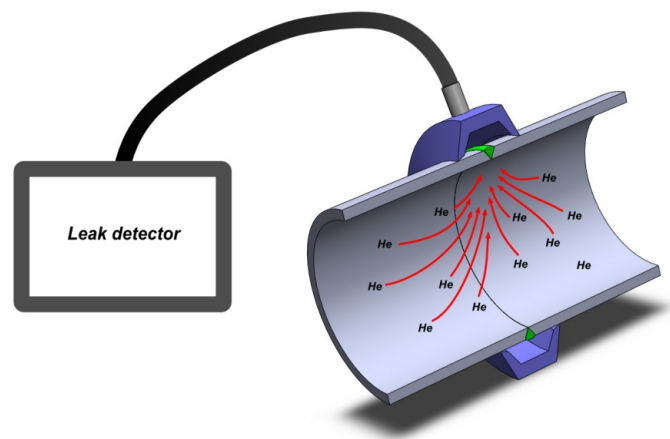

Fig. 2 : Helium molecules migrate if a leak is detected
- 4- If a leak or porosity is detected, Helium molecules will be seen by leak detector (fig. 2).